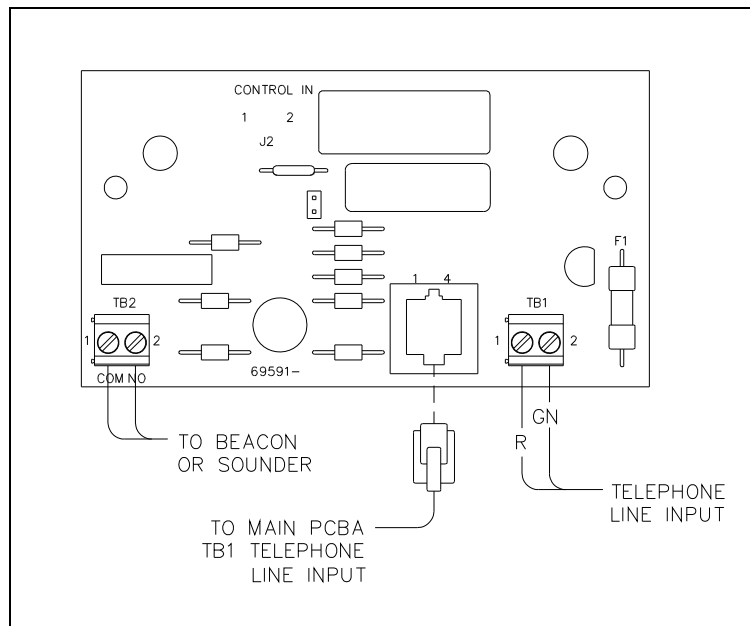
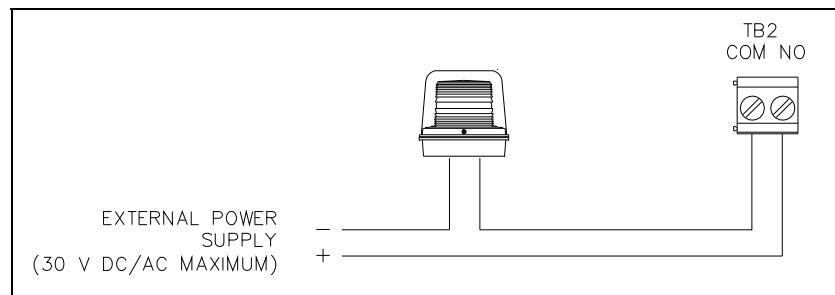
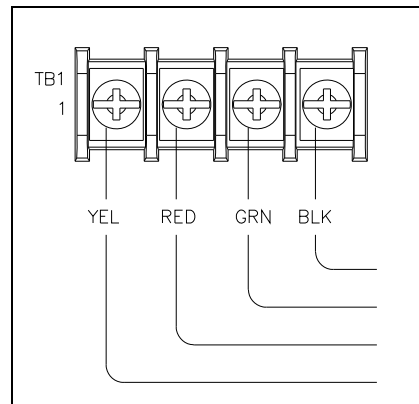

Figure 2. Ring Relay PCBA Wiring
Figure 3. Device Interconnection
Figure 4. TB1 Terminal Block on Industrial Telephone PCBA
6. Connect the incoming subscriber telephone line to TB1 on the Ring Relay PCBA as shown in Figure 2.
7. Connect the external sounder or beacon to TB2 on the Ring Relay PCBA for activation with an incoming telephone call. See Figure 2 and Figure 3.
8. Before reattaching the panel assembly, connect the USOC RJ11C modular connector cord (provided) from the Industrial Telephone PCBA shown in Figure 4 to the Ring Relay PCBA shown in Figure 2.
6. Connect the incoming subscriber telephone line to TB1 on the Ring Relay PCBA as shown on Figure 2.
8. Before reattaching the panel assembly, connect the USOC RJ11C modular connector cord (provided) from the Industrial Phone PCBA shown in Figure 4 to the Ring Relay PCBA shown in Figure 2.
9. Connect the incoming subscriber telephone line to TB1 on the Ring Relay PCBA as shown on Figure 2.
10. Connect the external sounder or beacon to TB2 on the Ring Relay PCBA for activation with and incoming telephone call. See Figure 2 and Figure 3.
11. Before reattaching the panel assembly, connect the USOC RJ11C modular connector cord (provided) from the Industrial Phone PCBA shown in Figure 4 to the Ring Relay PCBA shown in Figure 2.